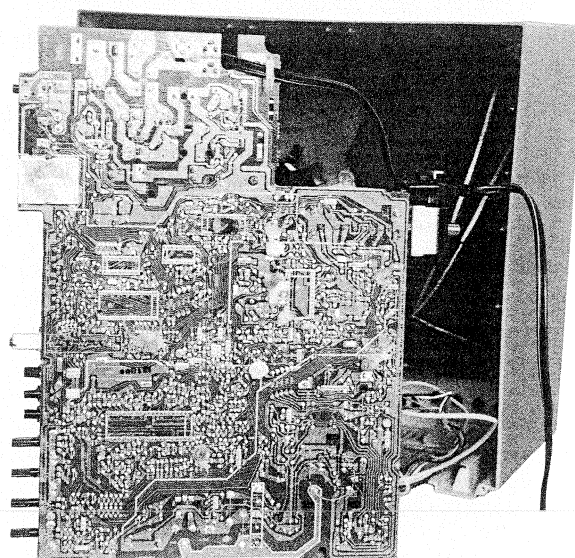

Fig. 2
2. During component checking or replacement, place the chassis as shown in Fig. 2.
* Fig. 2 is an example of placing the chassis.